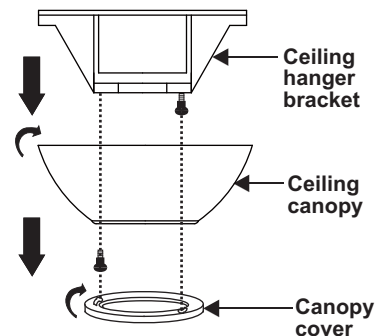

Figure 6
1. Remove the decorative canopy bottom cover from the canopy by turning the cover counter clockwise. (Fig. 6)
2. Remove the hanger bracket from the canopy by removing the 1 of 2 screws from the bottom of the hanger bracket and loosening the other one a half turn from the screw head. Next, turn the canopy counter clockwise to removing the hanger bracket from the canopy. (Fig. 6)